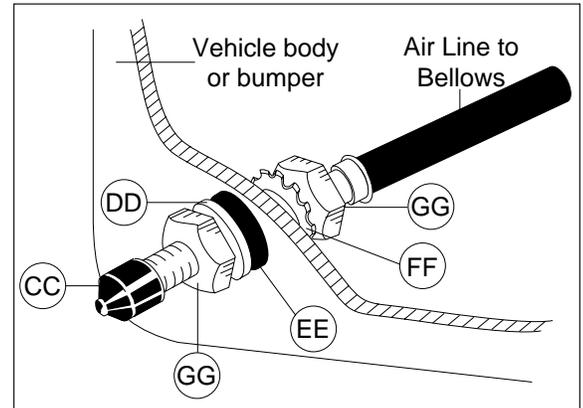

Figure 7
3. Cut the air line assembly (AA) in two equal lengths.
4. Place a  $\frac{5}{16}$ " nut (GG) and a star washer (FF) on the air valve. Leave enough of the inflation valve in front of the nut to extend through the hole and have room for the rubber washer (EE), flat washer (DD), and  $\frac{5}{16}$ " nut (GG) and cap (CC). There should be enough valve exposed after installation - approximately  $\frac{1}{2}$ " - to easily apply a pressure gauge or an air chuck (Figure 7).
5. Push the inflation valve through the hole and use the rubber washer (EE), flat washer (DD), and another  $\frac{5}{16}$ " nut (GG) to secure it in place. Tighten the nuts to secure the assembly in place (Figure 7).
6. Route the air line along the frame to the air fitting on the air spring. Keep at least 6" of clearance between the air line and heat sources, such as the exhaust pipes, muffler, or catalytic converter. Avoid sharp bends and edges. Use the plastic tie straps (BB) to secure the air line to fixed, non-moving points along the chassis. Be sure that the tie straps are tight, but do not pinch the air line. Leave at least 2" of slack to allow for any movement that might pull on the air line.